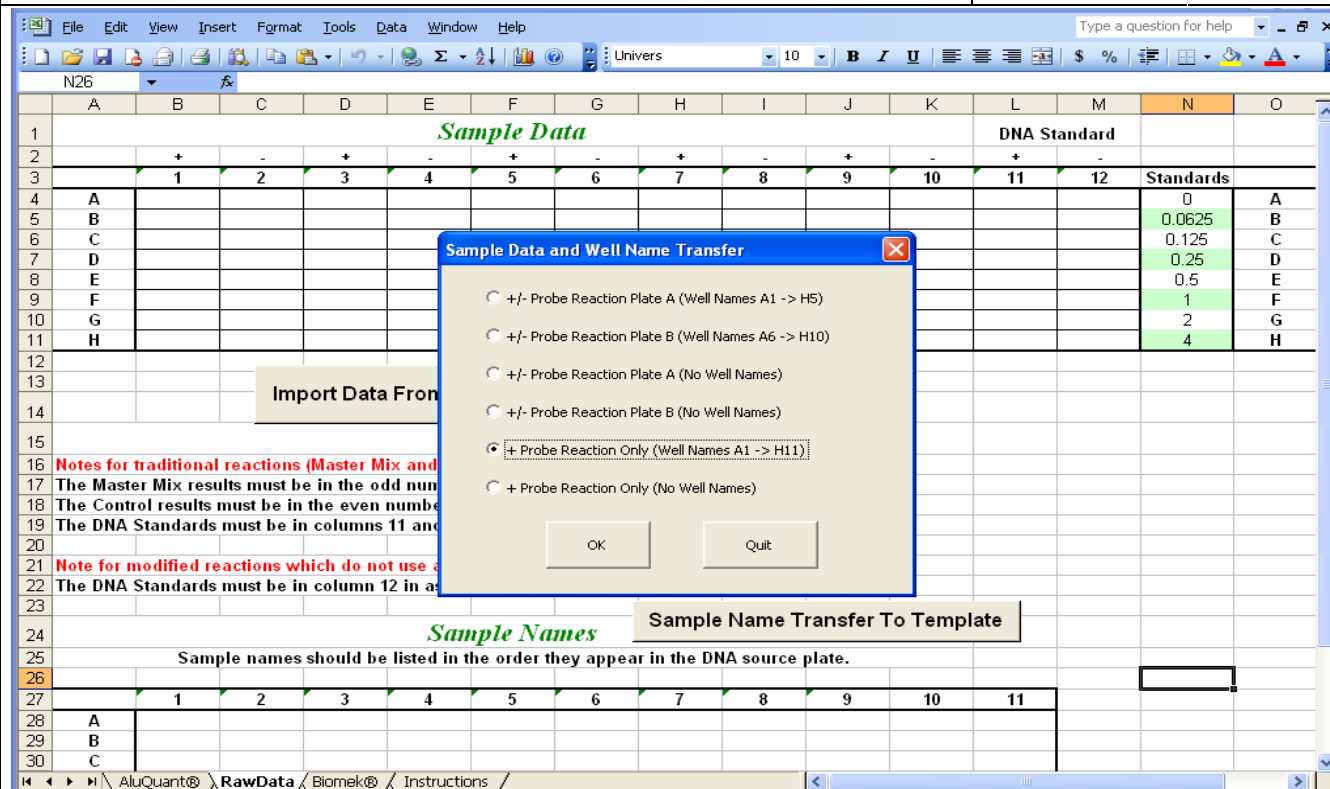

Figure 9. Transferring data to the template.
4.5.28 Another window will pop up shown in Figure 9.
4.5.29 Select the choice indicated in Figure 9; the + Probe Reaction Only (Well Names A1 -> H11) and click "OK".